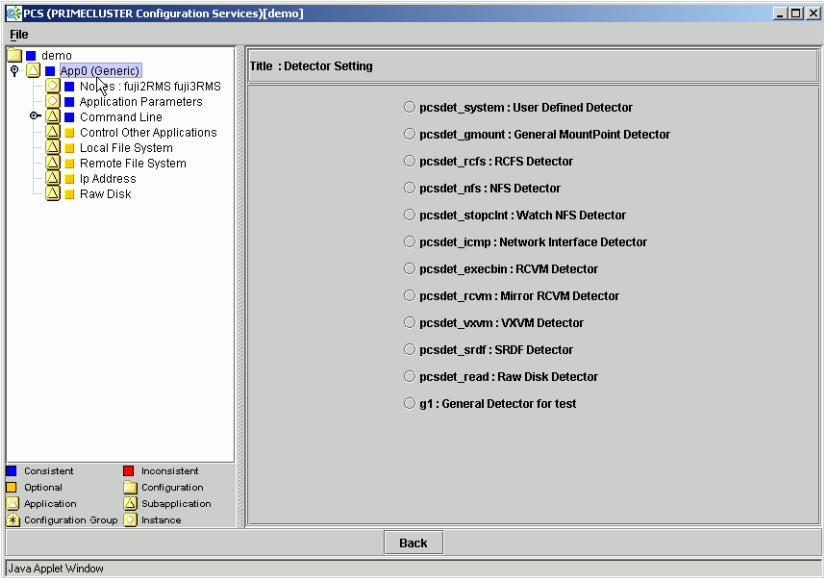

Figure 11: PCS Detector Details menu
- Click anything in the left-hand configuration tree and then select *Edit* -> *DetectorSettings*. The *Detector Settings* window appears (Figure 11).